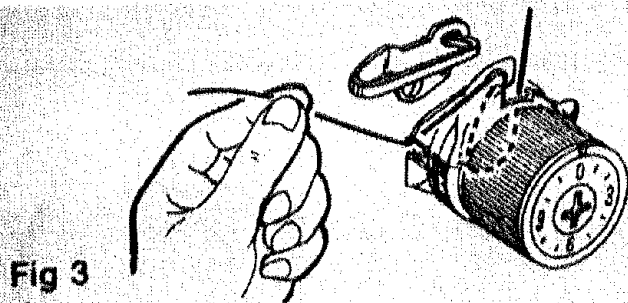

Fig 3
2. To install machine in portable carrying case, simply slip machine into base, making certain the machine and the words Front in the case face you. Place cover on machine with words "Sears" on handle facing you. The case slopes in the same direction of the machine. (Fig. 3)
3. After the thread has slipped into the hook, allow the spring wire to return to position by releasing the thread spool. Fig. 3.